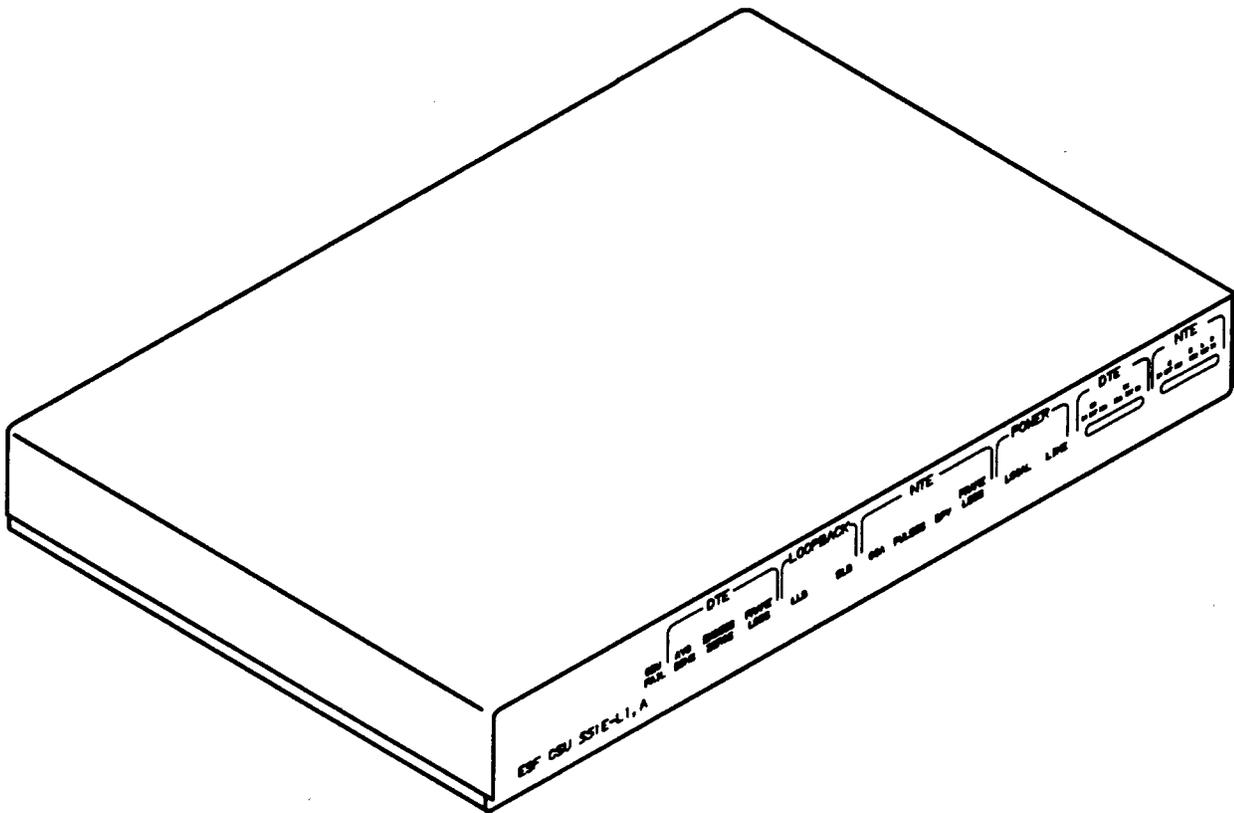

Figure 1. 551E-L1, A ESF Channel Service Unit (CSU)
2.01 The 551E-L1, A ESF CSU (Figure 1) provides an interface between the customer data terminal equipment (DTE) and a DS1 line facility (network). It provides standard D4 framing format or ESF format capability. ESF allows transmission of performance-monitoring data through the DS1 line facility without interrupting service. The CSU stores the ESF performance data in internal registers. Access to the ESF performance data is through an EIA RS-232C port on a local CSU. The RS-232C port also provides access to the remote CSU at the far end. The CSU can convert between the standard D4 framing format and the ESF format, in either transmission direction.